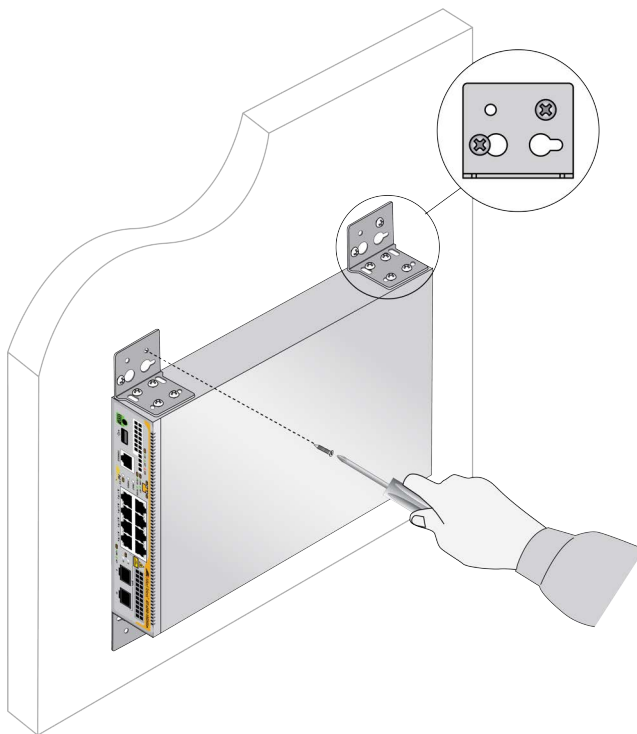

Figure 52. Securing the Switch Using the Screw Holes
11. Continue to secure the switch with screws in the screw holes that are diagonally across from the keyhole in the bracket. Refer to Figure 52.